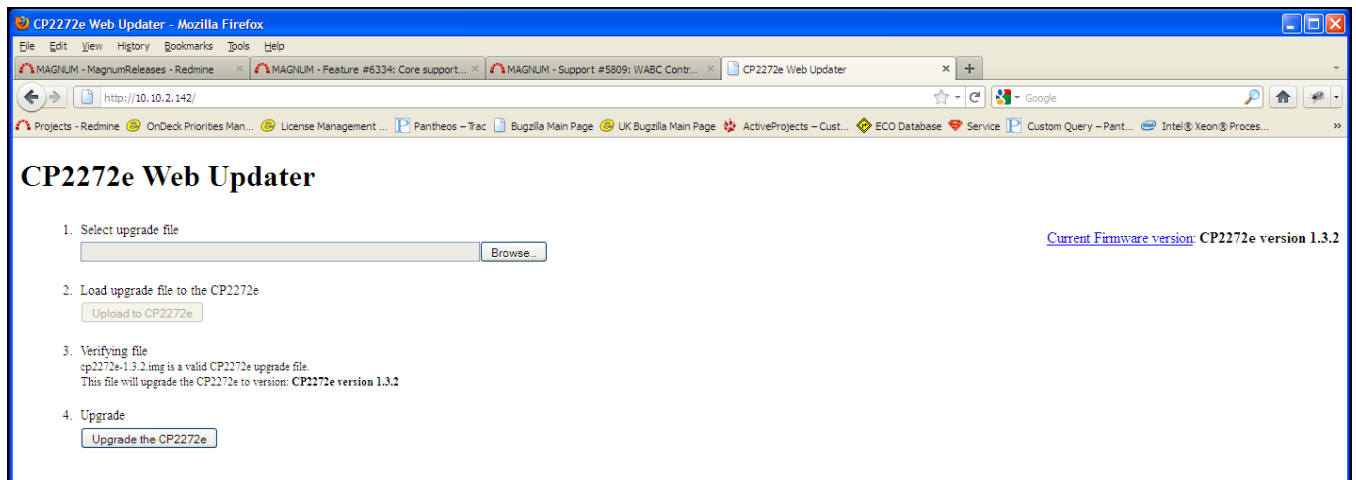

Figure 5-3: Upgrade the CP2272e
- When the firmware has been successfully uploaded, click on the **Upgrade the CP2272e** button, as shown in Figure 5-3. Selecting this button will upgrade the firmware file using the .img file you previously loaded.